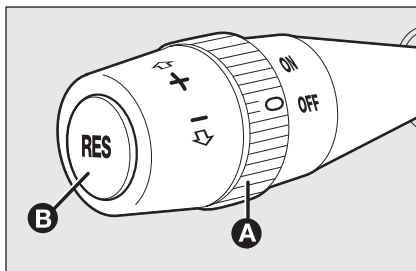

fig. 75
Turn the ring **A-fig. 75** to **ON**.
- turn ring **A-fig. 75** to **ON** and press the accelerator pedal to the required speed;
- press button RES **B-fig. 75**.
Turn ring **A-fig. 75** to **OFF** or the ignition key to **STOP**. If the device has been disengaged, for example by pressing the brake or clutch pedal.